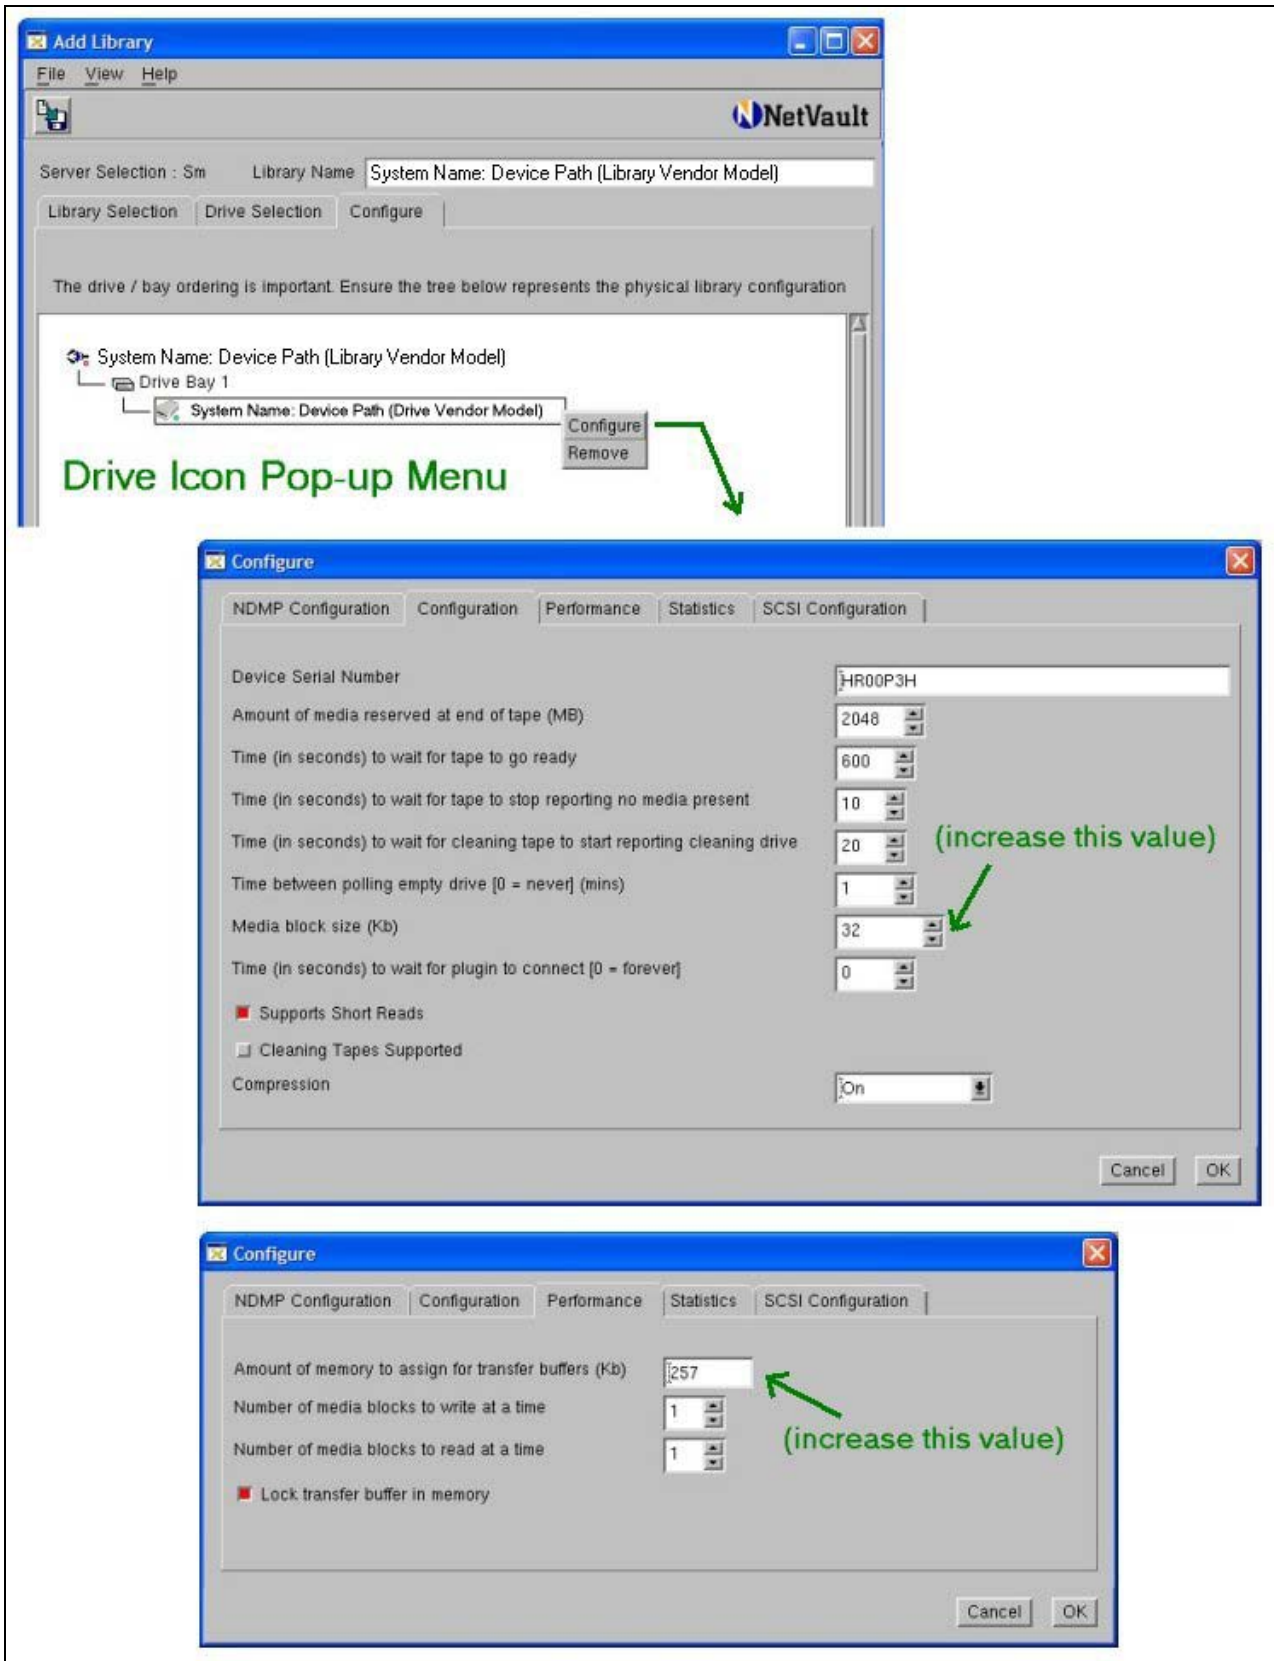

Figure 3. Drive Performance Tuning
- ✓ Select the Configure tab, right-click the drive and select Configure, to display the Configure Device dialog box. (Refer to Figure 3 on next page.)